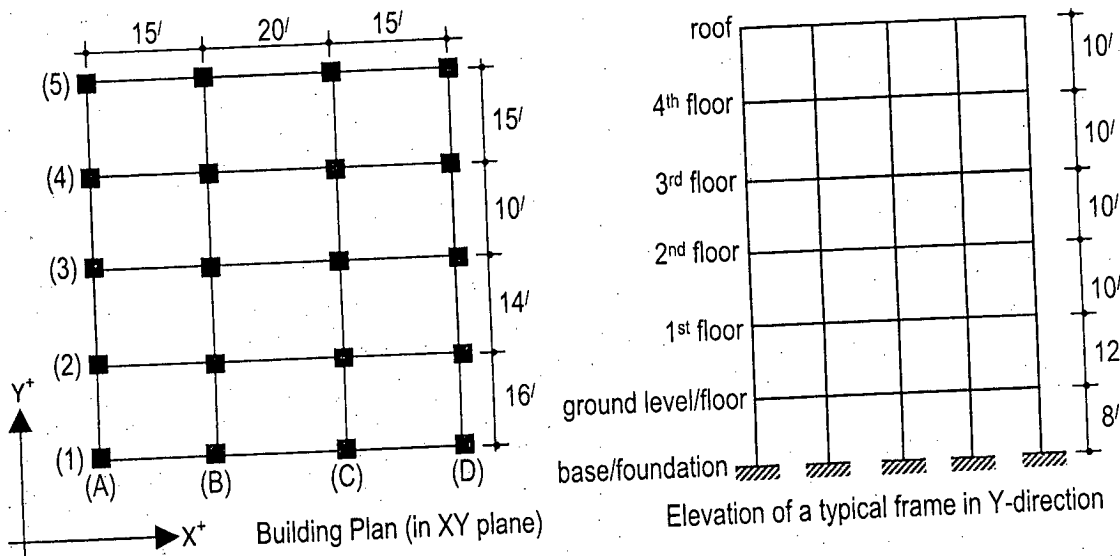

Figure 3
3. (a) A 5-storied RC residential building (see Figure 3) has a plan dimension of 50 ft × 55 ft and typical floor-to-floor height of the building is 10 feet except the ground floor. The height of the ground floor is 12 feet and column bases are located 8' below ground level. The building is a special moment resisting frame (SMRF) located in Sylhet city. Determine the lateral force distribution along the height of the building on frame C-1-2-3-4-5 for Earthquake resistant design following equivalent static force method as per BNBC 1993. Given, slab thickness = 8 inch, floor finish = 30 psf, partition wall load = 80 psf, service live load = 40 psf. Neglect beam, column, stair, water tank and other element's self-weight.  $R = 12$ ,  $I = 1.00$ ,  $S = 1.20$ ,  $Z = 0.25$ ,  $C < 2.75$  and  $C/R > 0.075$ . (28)